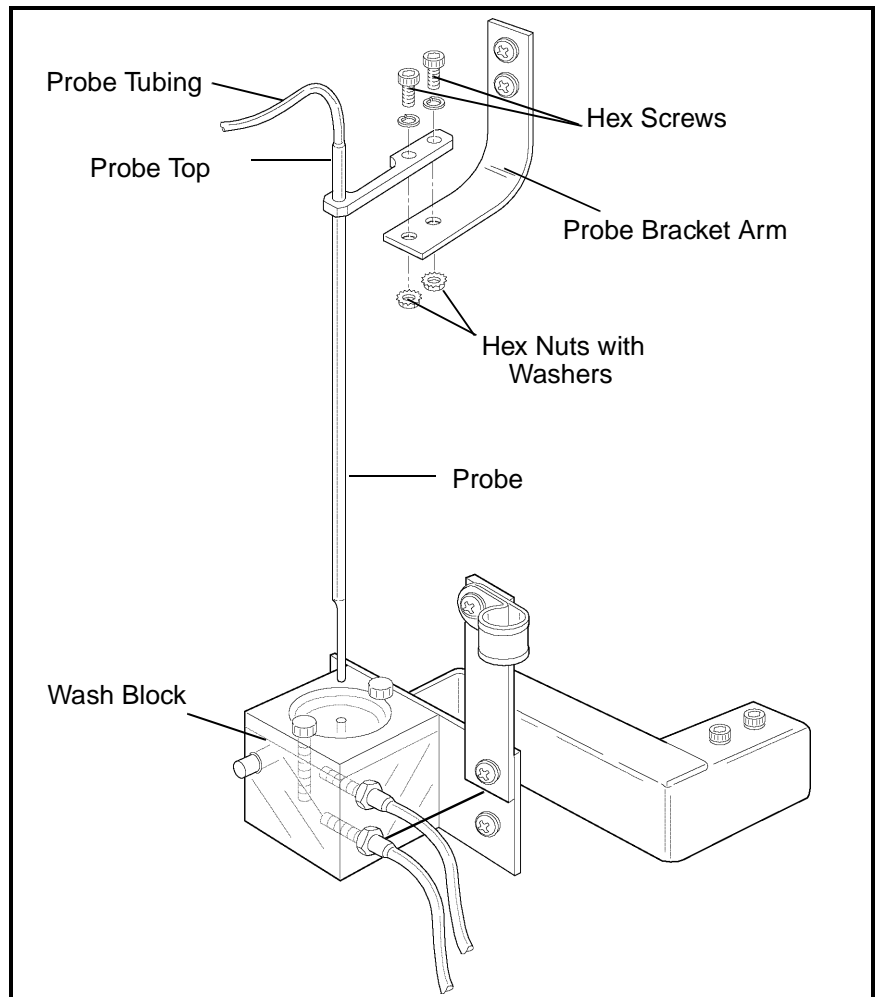

Figure 9.17: Open Sample Probe Replacement
3. Locate the tubing attached to the top of the Open Sample Probe. (Refer to Figure 9.17.) Hold the probe firmly with one hand and with the other hand use the pliers to carefully work the tubing up and off the top of the probe.